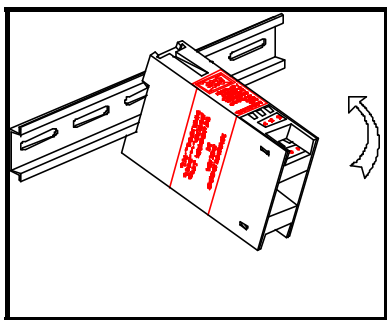

Figure 12-16
3. Hook the bottom groove of the SCR Module under the bottom DIN rail edge as shown in Figure 12-16.